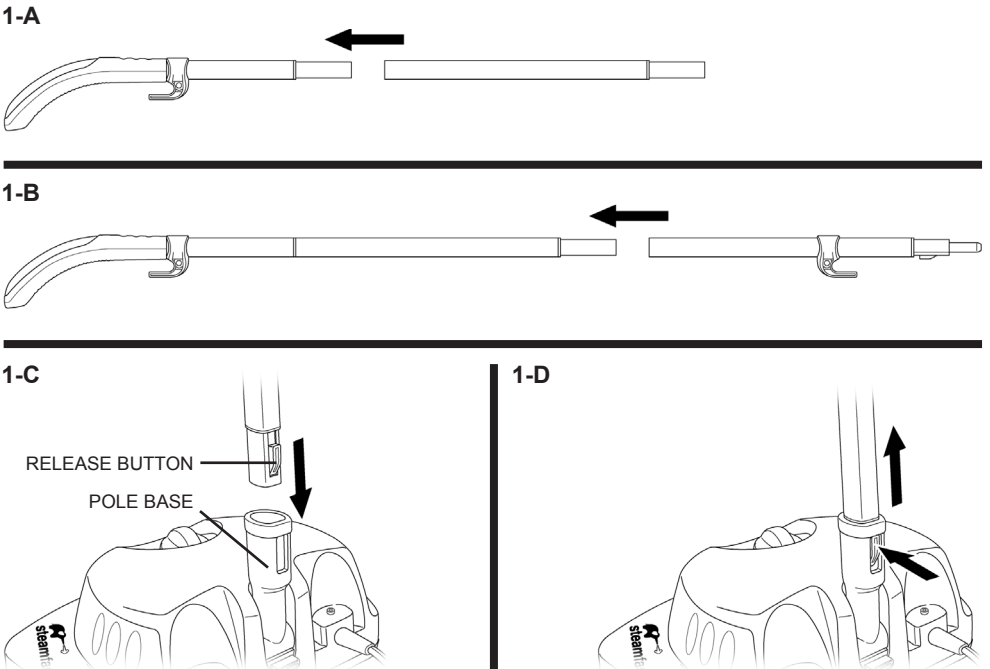

FIGURE 1
1. Slide SECTION B of Pole onto SECTION A as shown (FIGURE 1-A).
2. Slide SECTION C of Pole onto SECTION B as shown (FIGURE 1-B).
3. Insert SECTION C of assembled Pole into pole base on Mop Head as shown (FIGURE 1-C). Note that Pole will only fit into pole base one way – release button on Pole will align with rectangular hole on back side of pole base.
5. To disconnect Pole, press in on release button while simultaneously pulling Pole up out of pole base (FIGURE 1-D).